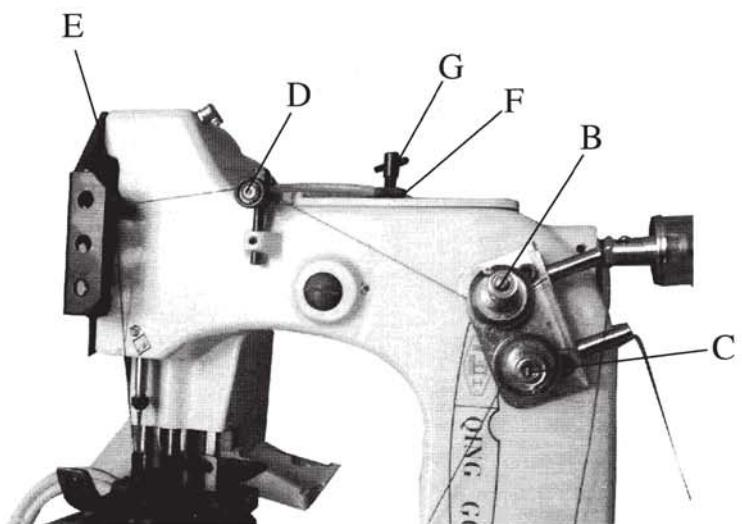

图 10 Fig.10
压脚压力的大小，取决于缝料的厚度，缝薄料时须减少压力；反之，则增大压力。当缝料推送顺畅，针迹均匀时切勿再增大压力，以缓减机件磨损。调节压力时旋进调压螺钉(G) (图10)，调节合适后旋紧锁母(F) (图10)
缝线张力由夹线器(图10, B、C)调节，通常面线(B)张力要比底线(C)的张力大。旋进夹线器螺母(B、C)使张力增大，旋出则减少。
Thread tension is adjusted by thread tension assembly(B. C. Fig. 10). Tension of upper thread(B) is generally stronger. Than that of lower thread (C). Turn thread tensioner nut (B. C)in to increase the tension, turn it out to decrease the tension. If the stitch is still not good, should adjust the height of thread adjusting bar (D). The height of the thread adjusting bar (D) is at the same level with the thread eye of the needle bar connection at its highest position.